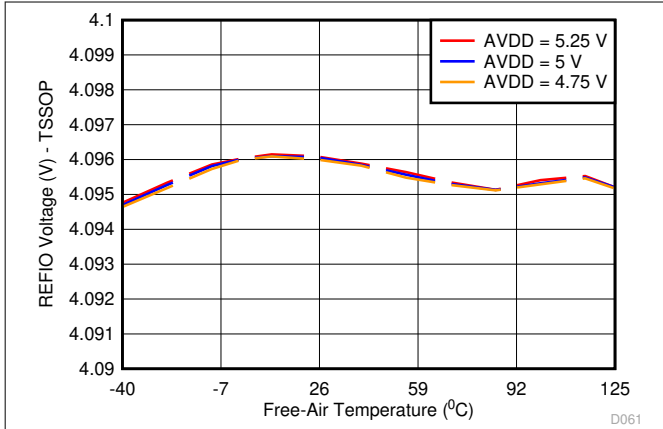

图 7-10. REFIO Voltage Variation Across AVDD and Temperature (PW Package)
The internal reference is also temperature compensated to provide excellent temperature drift over an extended industrial temperature range of -40°C to +125°C. 图 7-10 and 图 7-11 show the variation of the internal reference voltage across temperature for different values of the AVDD supply voltage. The temperature drift of the internal reference is also a function of the package type. 图 7-12 and 图 7-13 show histogram distribution of the reference voltage drift for the TSSOP (PW) and WQFN (RUM) packages, respectively.